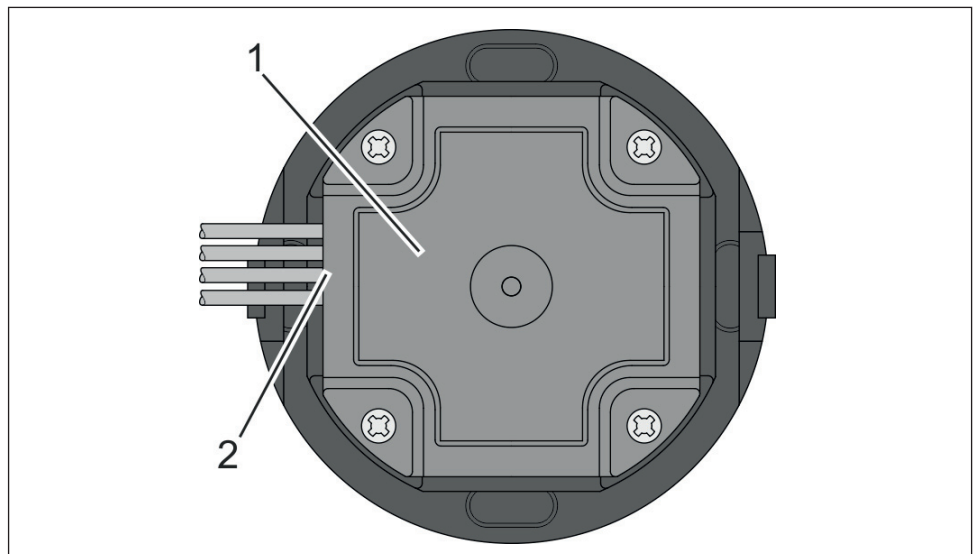

Fig. 14: Back of WR 200 reader with cable
4. Screw the accompanying cover to the back of the reader (Fig. 14/1).
Lead out the leads to the padded cable guides at the side (Fig. 14/2).